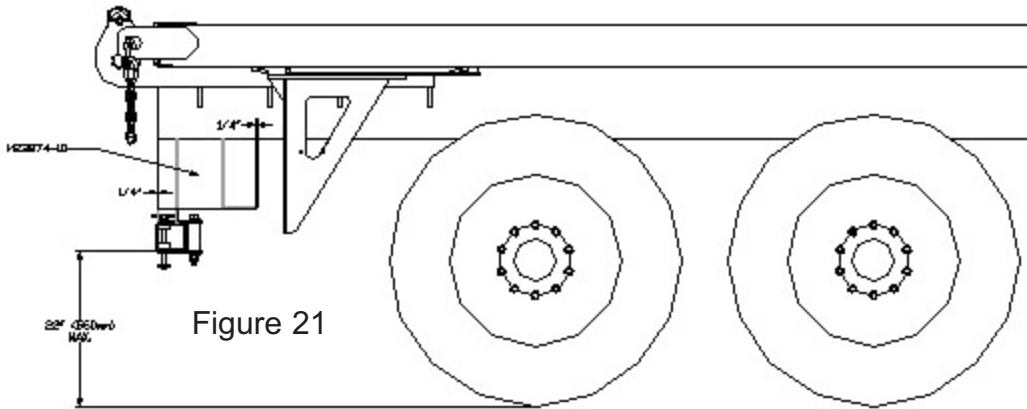

Figure 21
- 12.) Cut and locate Joining Plates (M23874-10), so that the rear edge is 1/4" offset towards the rear axle(s) and flush with the bottom surface of the trailer frame rails. Tack plates in place. See figure 21 on next page.